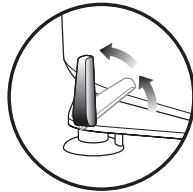

Fig. 11b
- 7 To remove the motor base from the counter or table top, pull the suction lever up to release the suction feet. (Fig. 11b)